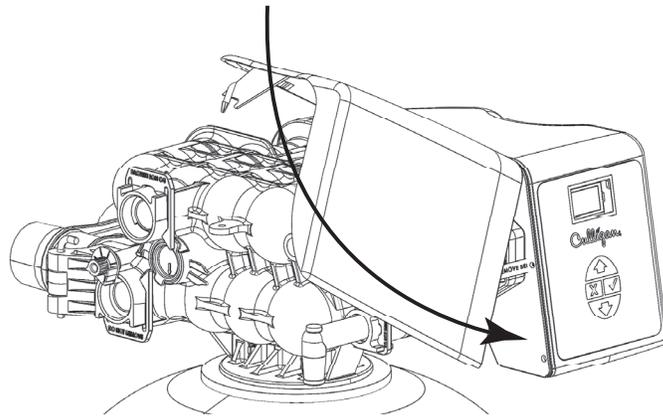

Figure 10. Reattaching the HE softener cover.
1. Insert the two pins on the top of the cover into the two holes on top of the frame; the cover should be slightly angled. See Figure 10.
2. Rotate the cover downward inserting the two pins on the side of the cover into the two holes on side of the frame. See Figure 10.